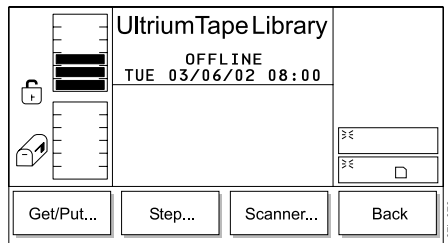

Figure 284. Fingers Submenu
- Press the button below the **Fingers** softkey. The Fingers Submenu displays (see Figure 284).